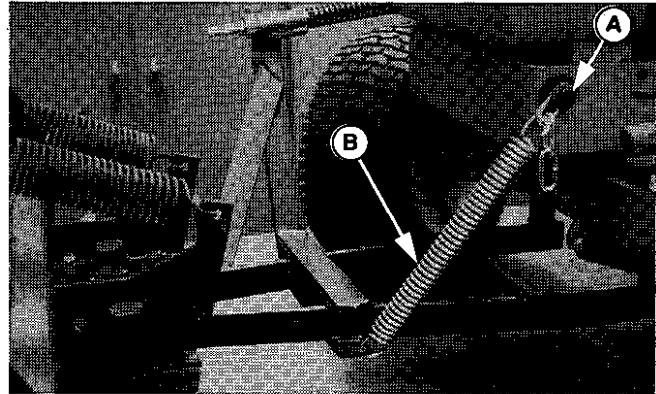

Figure 5. Chain Installation (Group 3 Tractor Shown)
- Insert **capscrew** (A, figure 5) through tractor frame. Tighten snug only **at** this time. (Spring (B) will be installed in step 7.) **From inside** the frame, install locknut.